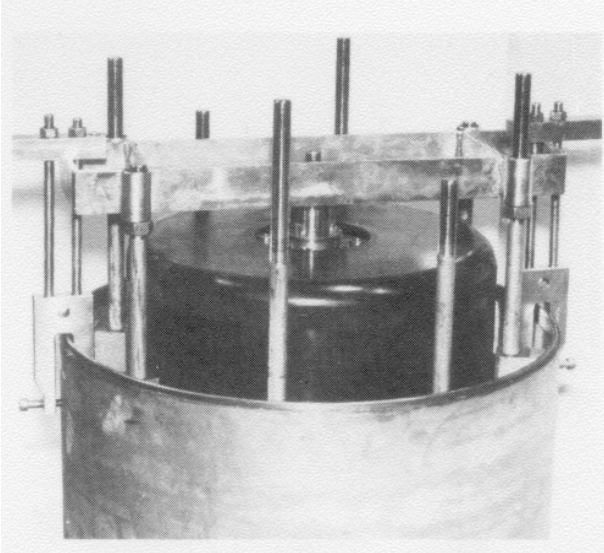

**Fig 13**
- Put on the driving sleeve : The trimming washers P/N W494044 ,The impeller P/N W491011(60Hz) W491010(50Hz) the protective housing P/N W491046 and the nut P/N W84215 **Fig 13** .